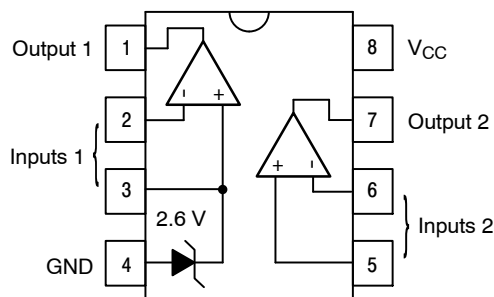

Figure 1. Functional Block Diagram
The NCP4300A is an analog regulation control circuit that is designed to simultaneously close the voltage and current feedback loops in power supply and battery charger applications. This device can control the feedback loop in either constant-voltage (CV) or constant-current (CC) mode with smooth crossover. A concise description of the integrated circuit blocks is given in below. The functional block diagram of the IC is shown in Figure 1.